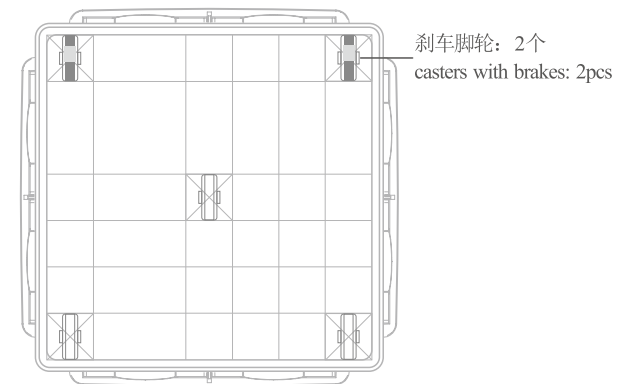

图4.5 / fig4.5
- 需要两个人，先将机身平放，打开螺丝包，依次在底部安装5个脚轮；注意，带刹车的两个脚轮应安装在设备的正前方，即出风口方向。（如图4.5）
Two people are required. First, lay the machine flat, open the screw package, and install five casters at the bottom; note that the two casters with brakes should be installed in front of the device, the direction of the air outlet. (fig4.5)